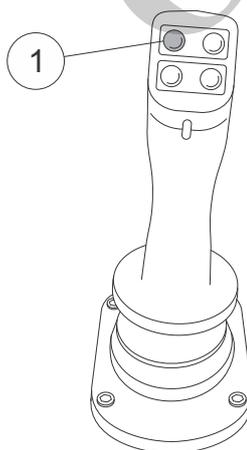

Fig. 88 Disengaging the slewing gear holding brake
- 1 Press the button (1) in Fig. 88 on the left joystick.